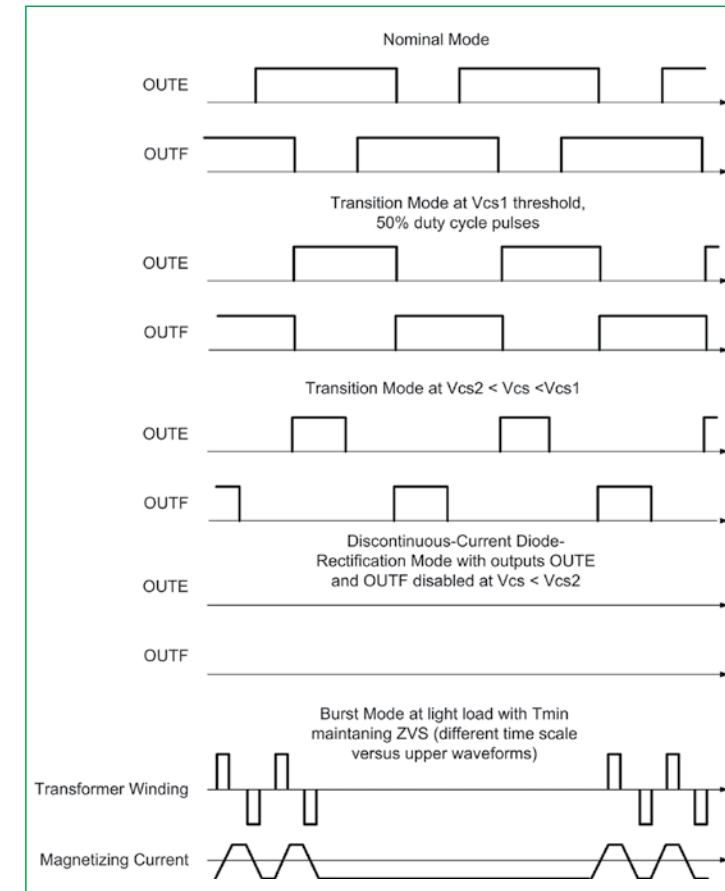
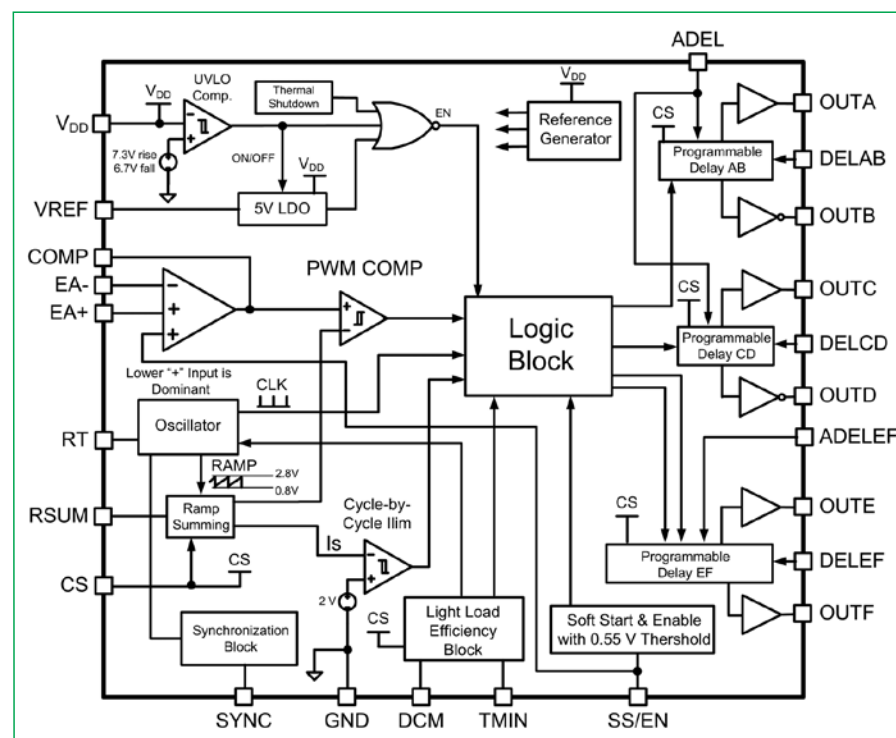

Figure 2: Timing diagrams and transitions between power saving modes.
Figure 3: Block diagram of the advanced phase-shifted controller IC.
To maintain high efficiency across the load, the converter operates in normal synchronous rectification mode at mid- and high-load, transitions to diode rectifier mode at light load, and to burst mode as load drops further (Figure 2). All these transitions are based on primary side current sensing using current transformer (CT).
The block diagram of this controller is shown in Figure 3. This controller provides adaptive timing between primary and secondary MOSFETs, and adaptive delay for primary switches in the same leg based on the current sense signal (CS). At light-load the efficiency management block provides optimal transition between different modes in Figure 2 as a function of the CS. Additionally, the controller provides all major functions and features usually found in such ICs.